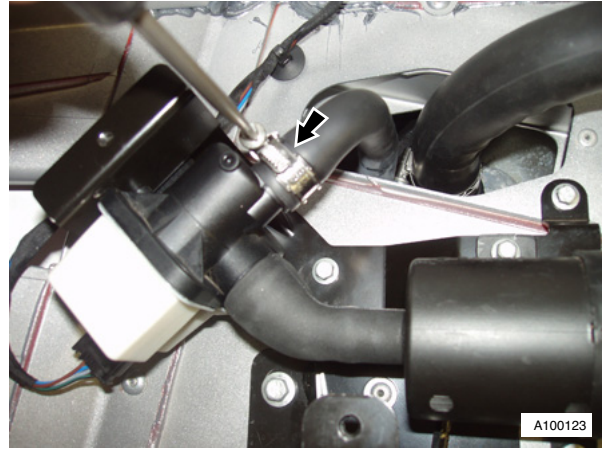

Fig. 3
8. Loosen jubilee clip and disconnect hose from evaporative emission control assembly (see Fig. 3).